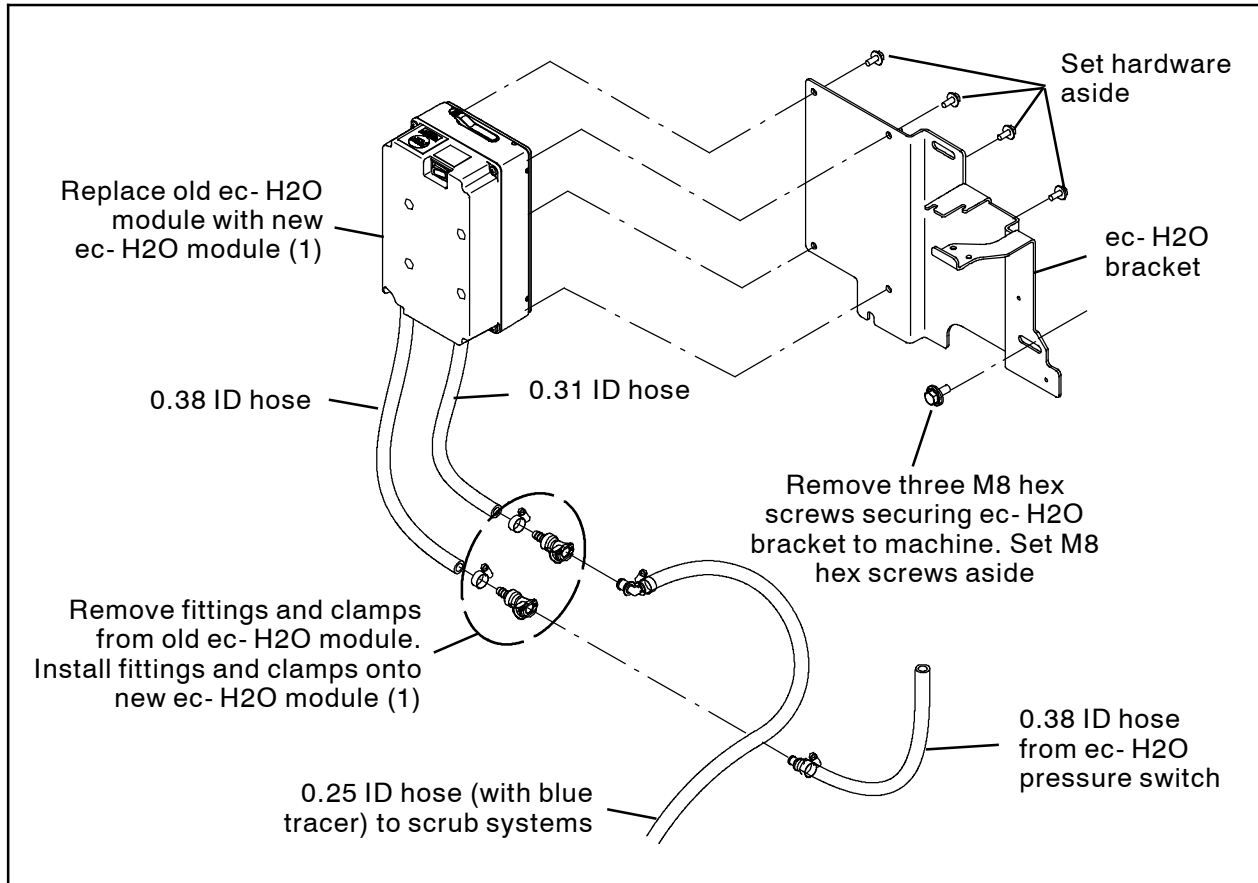

FIG. 1
*NOTE: Refer to Fig. 1 for locations of all parts removed / assembled in this Instruction Bulletin.*
10. Use saved hardware to install the new ec- H2O module (1) onto the ec- H2O bracket.